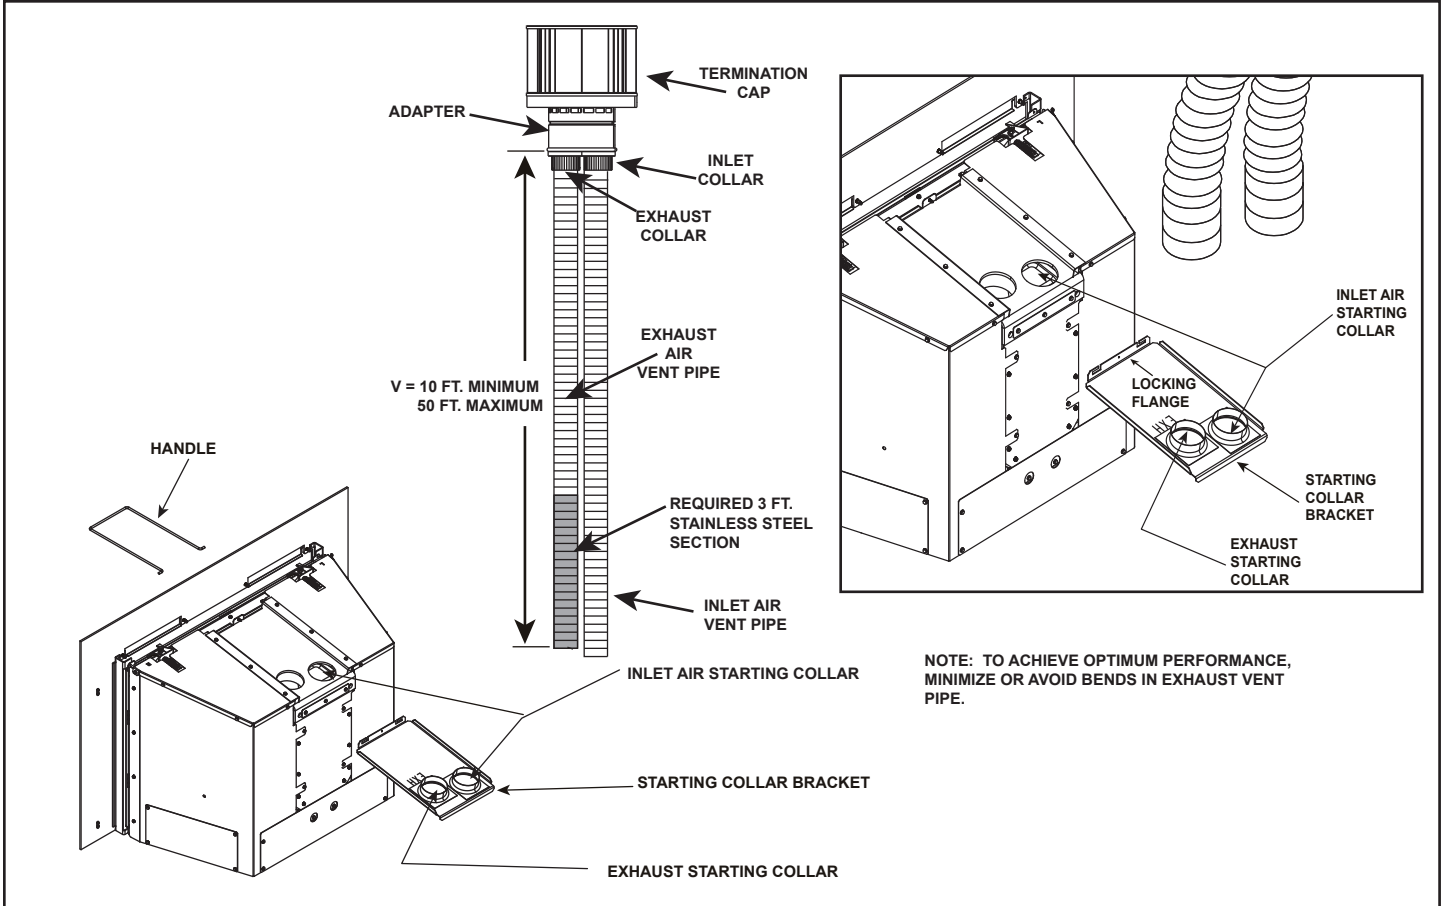

Figure 7.1
- Secure the exhaust flexible vent pipe to the 3 foot section stainless steel flexible vent pipe using the factory-installed 3 in. collar in the stainless steel section of pipe (see Figure 7.1).
- Use 3 screws to attach the section of inlet air vent to the inlet collar on the collar slide plate. See Figure 7.1. NOTE: The collar slide plate may be removed from appliance to aid installation.
- Secure collar slide plate to appliance by placing locking handle into position with locking tabs (see Figure 7.1) and secure with #8 screw.